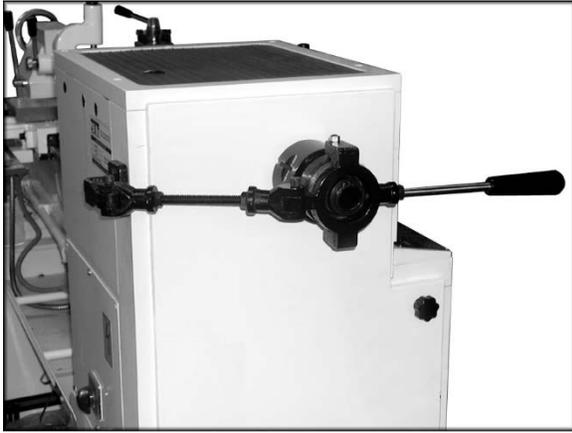

Figure 5
13. Assemble all linkage and attach to collet closer body (Figure 5).
14. With the help of another person, hold the collet closer in position with the fixed seat against the headstock. Note: The bearing shaft should be centered in bearing body (Figure 5).
19. Connect and adjust all linkage so that bearing shaft is centered in bearing body (Figure 5).